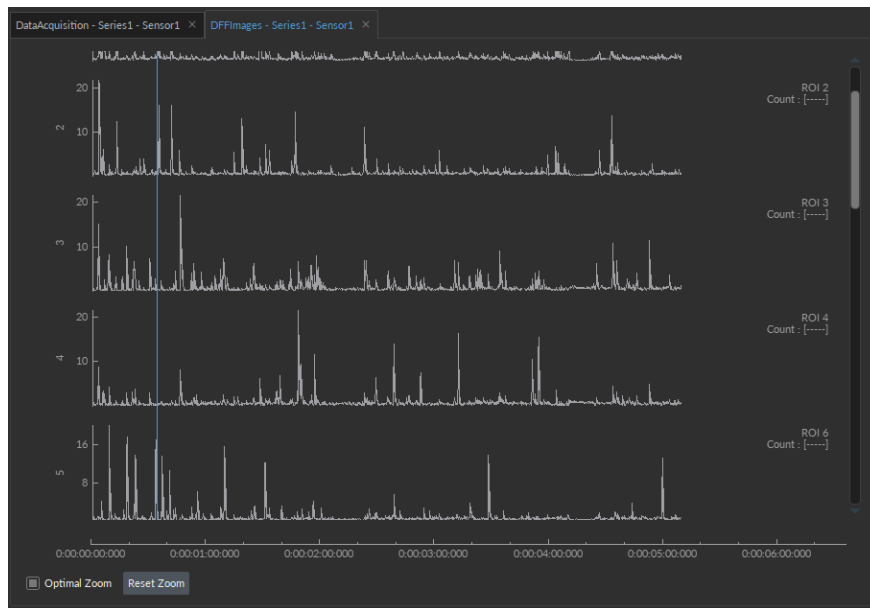

Figure 6.10: ROI View Graph
3. The **ROIs View** panel shows the plot of average intensity as a function of the frame index. The Y-axis represents the average count of all the pixels of the ROI, or the variation to the baseline for ROI on normalised images. Each trace on a separate graph represent an ROI, allowing for precise intensity measurements (see Fig. 6.10)